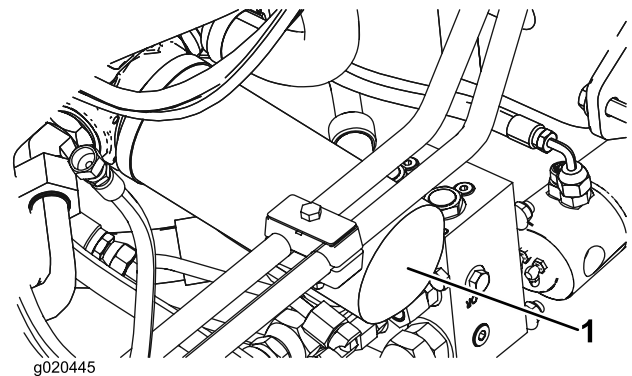

Figure 69
2. Clean the area around the filter mounting areas. Place a drain pan under the filter and remove the filter (Figure 69).